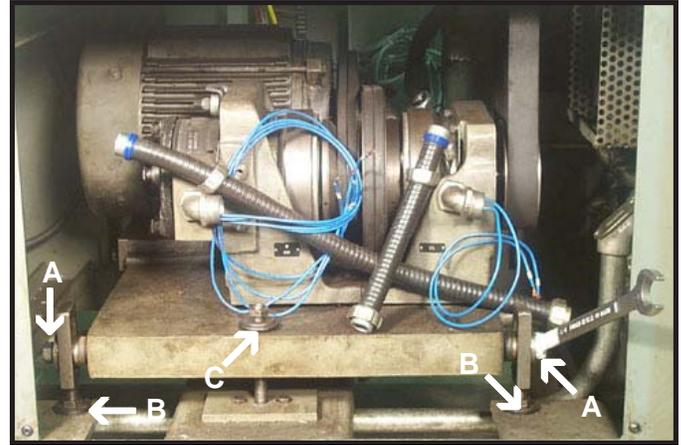

Figure 2.3.3
At the back side of the lathe loosen the (2) bolts (Figure 2.3.3 - A) on the side of the motor mounting plate that are for the levelers. Loosen the two top nuts (B) on the levelers and remove the two square plates underneath (B). Remove the center lock nut (C) and screw the jack bolt out to raise the plate up.